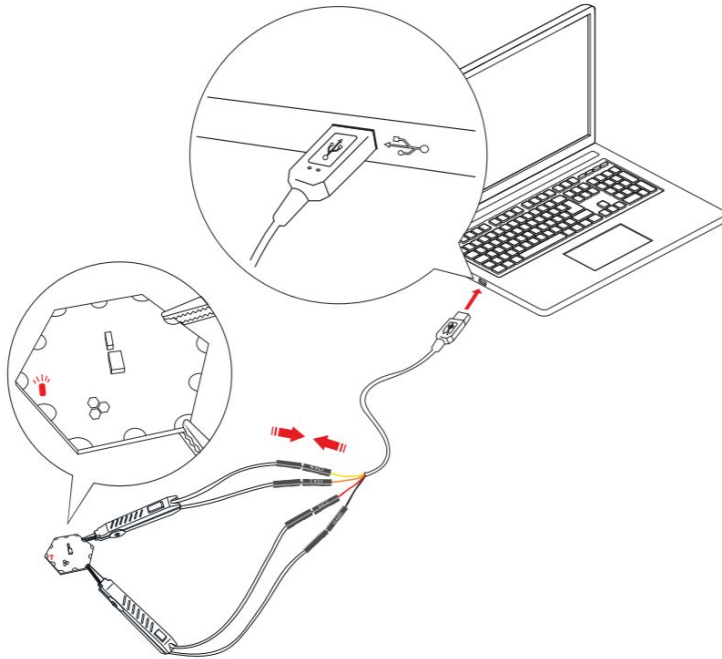

Figure 4.1: Module Connection to PC
1. Physically connect the module to the computer as shown in the Figure 4.1.